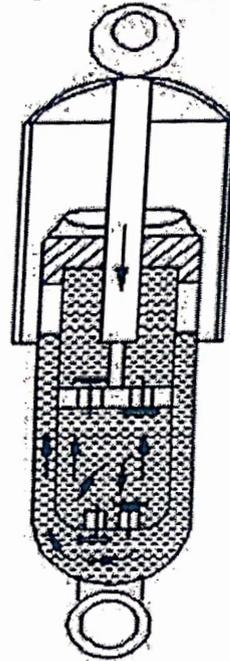

Figure 10
44. Identify the type of shock absorber shown in figure 10 below;